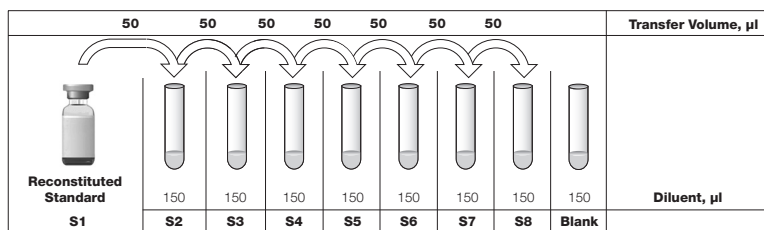

Fig. 3. Preparing a fourfold dilution series with a single reconstituted standard.
- Add **150 μ l** of the appropriate diluent to tubes S2–S8 (Figure 3).
- Continue with 1:4 (fourfold) serial dilutions as shown in Figure 3.